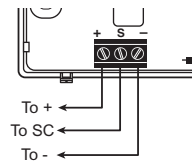

Figure 2 – Staging Thermostat Multi-Stage or Heat Pump Indoor/Outdoor Remote Sensor Wiring (F145-1328/F145-1378)
6. Although connected to the probe wire for outdoor temperature sensing, the interior mounting base must be placed indoors. Therefore, the interior mounting base must be installed near the perimeter of the building, so that the probe wire can be run through to the outside of the structure and placed in the selected (shaded) location. The outdoor probe wire is 12 feet long (and should not be cut or spliced), so plan the placement of both the probe and interior mounting base accordingly. Any excess wire may be coiled or bundled. The probe should be connected to E2 as shown in figure 2.